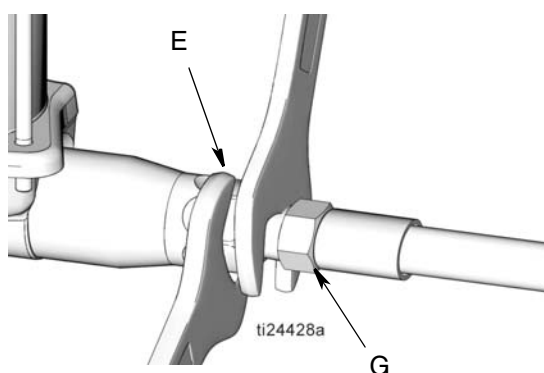

FIG. 7
1. Close the **bleed-type master air valve (F)** (required in the system).
2. Close the **shut-off valve (V)** on the **oil input supply pump/system (DD)**.
3. **Relieve pressure** in system using two wrenches working in opposite directions on the **pump outlet (E)** and **lubrication line fitting (G)** to **slowly loosen** the fitting until it is loose and no more lubricant or air is leaking out of the fitting (FIG. 7).